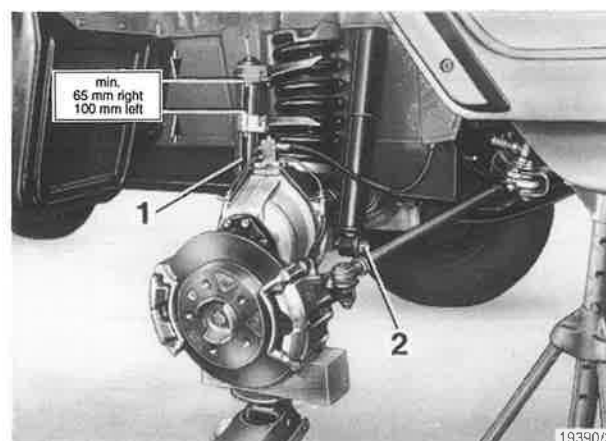

Fig. 2
- 4 Insert mounting device (2/1) special tool pos. no. 905.3.11.501.0 into spring acc. to fig. 2 and tension a bit. Place movable jack under wheel drive and lift half-axle successively while compressing spring. Compress spring to at least 65 mm right and to 100 mm left (measured at mounting device).